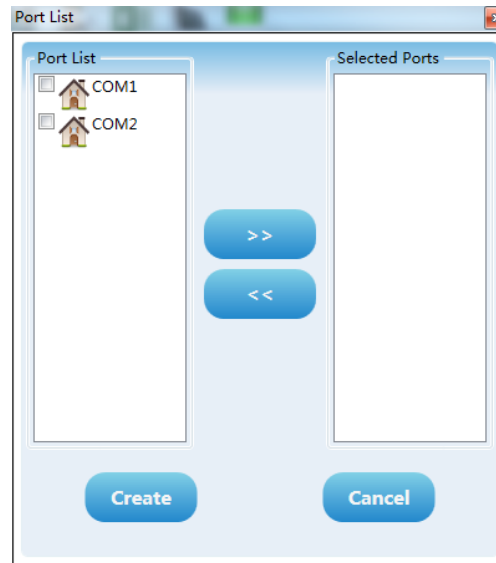

Figure 4.4 Add serial interface
- (2) Then connect the RS232 (or RS485/RS422) interface of the gateway to the serial port of the computer with a serial cable (or 485/422 to serial cable), and finally power on the gateway. At this time, the power indicator (PW) of the gateway should be constant bright.
- (3) Start the configuration software, right-click "Host" in the device list, click "Add Serial Port", the port list window will pop up as shown in Figure 4.4, select the serial port currently connected to the gateway in the "Port List" on the left, Click the button  to move it to the "selected port" on the right, and finally click the button , then the selected serial port COMx will appear under the host in the device list.